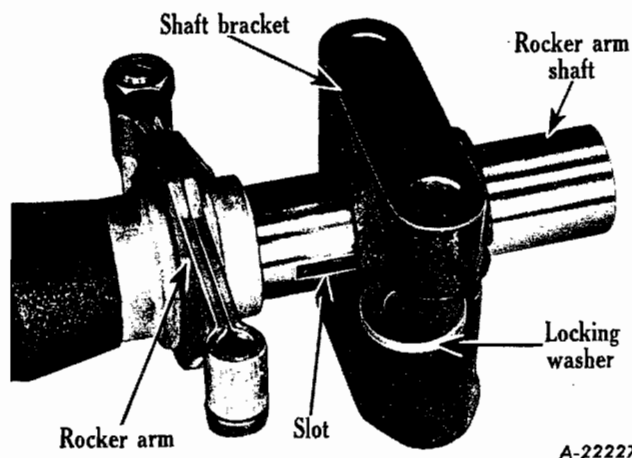

Fig. 4
1. The rocker-arm assembly is composed of front and rear shafts joined at the center, on which are mounted twelve rocker arms and four tension springs. The shafts are mounted in seven brackets, and are prevented from turning at the two center brackets which contain locking washers fitting into slots in the shaft. Remove locking washers from two center brackets (Fig. 4).